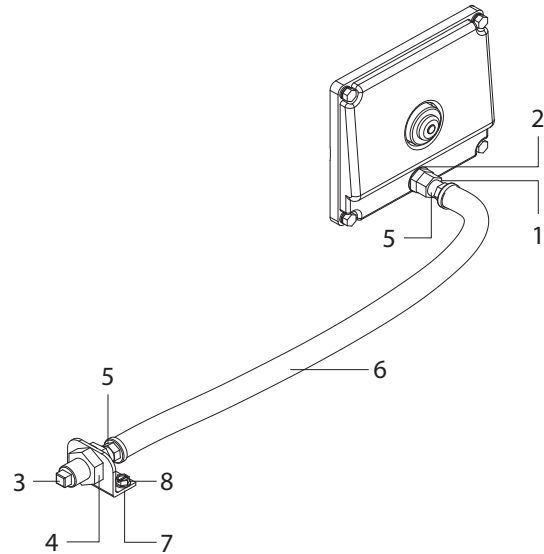

Figure 4
3. Install 1/4" BSP fitting (Figure 4, item 1) with O-ring (2) into rear cover of pump.
4. Attach hose barbs (5) to each end of 3/8" hose (6).
5. Thread one end of hose (6) into fitting (1) of rear cover.
6. Remove nut from 1/4" union fitting (4).
7. Thread in hose (6) with barb end into large end of union fitting (4).
8. Mount bracket (7) with screws (8) into desired position to maximize drainage.
9. Install hose assembly with union fitting end through mounting bracket (7) or panel (Bulkhead hole is .78" diameter).
10. Reinstall nut onto threads of union fitting (4) and tighten.